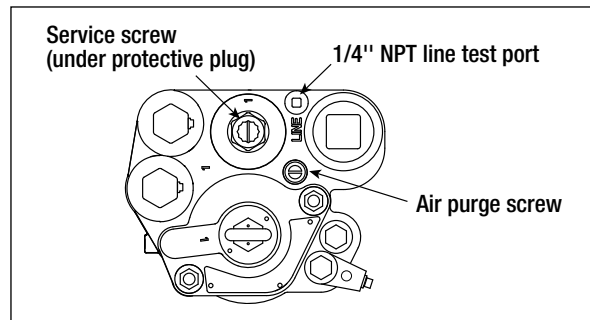

Figure 25. Locating Pump Line Test Port
- Pressure may be observed using a gauge attached at the impact valve or to the pump's line test port (see Figure 25).
2. Remove and save the protective plug over the service screw and turn the screw clockwise (see Figure 25). As the screw approaches its bottom position, you will hear the system depressurizing. Continue turning the screw until it can go no further. When the screw is all the way down, back off the screw 4 turns to lift the check valve and let the fuel drain out of the manifold's hydraulic cavities. Continue to turn the screw all the way counterclockwise. When the screw is almost up, the check valve will drop down into position.
3. Remove the line test port plug (see Figure 25) and attach test gauge.
4. Open the air purge screw 2 - 3 turns counterclockwise (see Figure 25).
2. Remove and retain the protective plug over the service screw and turn the screw clockwise (see Figure 25). As the screw approaches its bottom position, you will hear the system depressurizing. Continue turning the screw until it can go no further.